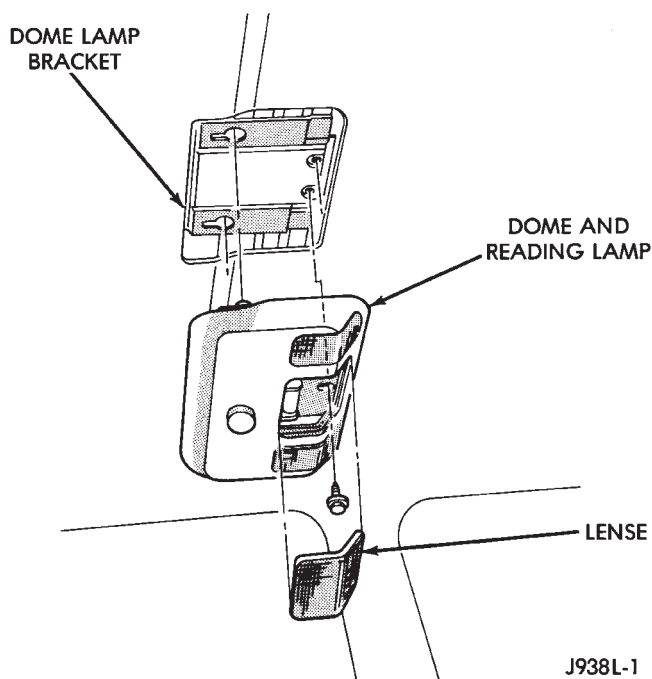

Fig. 2 Dome/Reading Lamp
(1) Insert a flat blade screwdriver in slot at the center of the lamp housing. Rotate screwdriver upward and unsnap dome lamp lens.
(2) Pull lens downward. Remove it from lamp housing.
(3) Remove the lamp housing retaining screws (Fig. 2).
(4) Push housing forward and release housing from bracket.
(1) Position dome/reading lamp housing at headliner cavity.
(2) Connect wire harness connectors.
(3) Locate rear pods of the lamp in the slots of the dome lamp bracket. Push lamp housing up and to rear.
(4) Install the lamp housing screws (Fig. 2).
(5) Position dome lamp lens at lamp housing. Snap lens into housing.